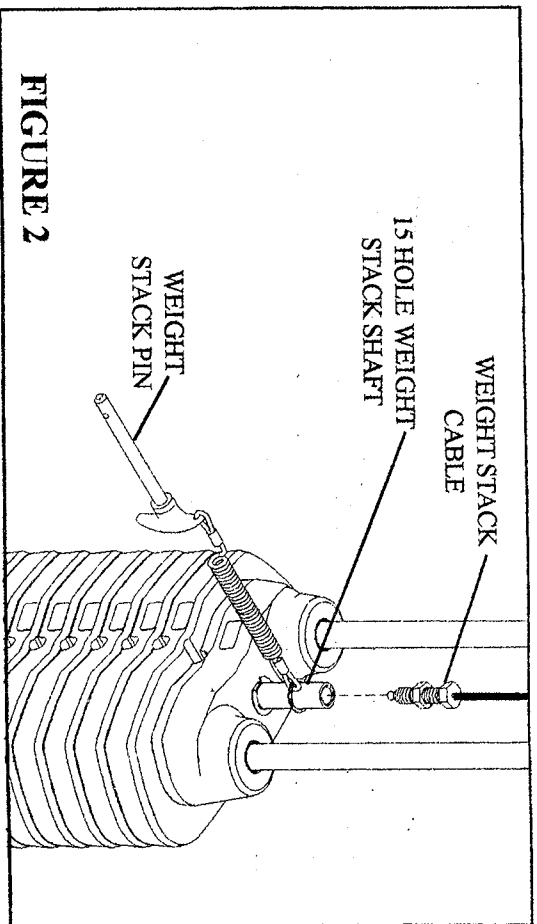

FIGURE 2
- Unscrew the WEIGHT STACK CABLE from the 15 HOLE WEIGHT STACK SHAFT as shown in FIGURE 2.